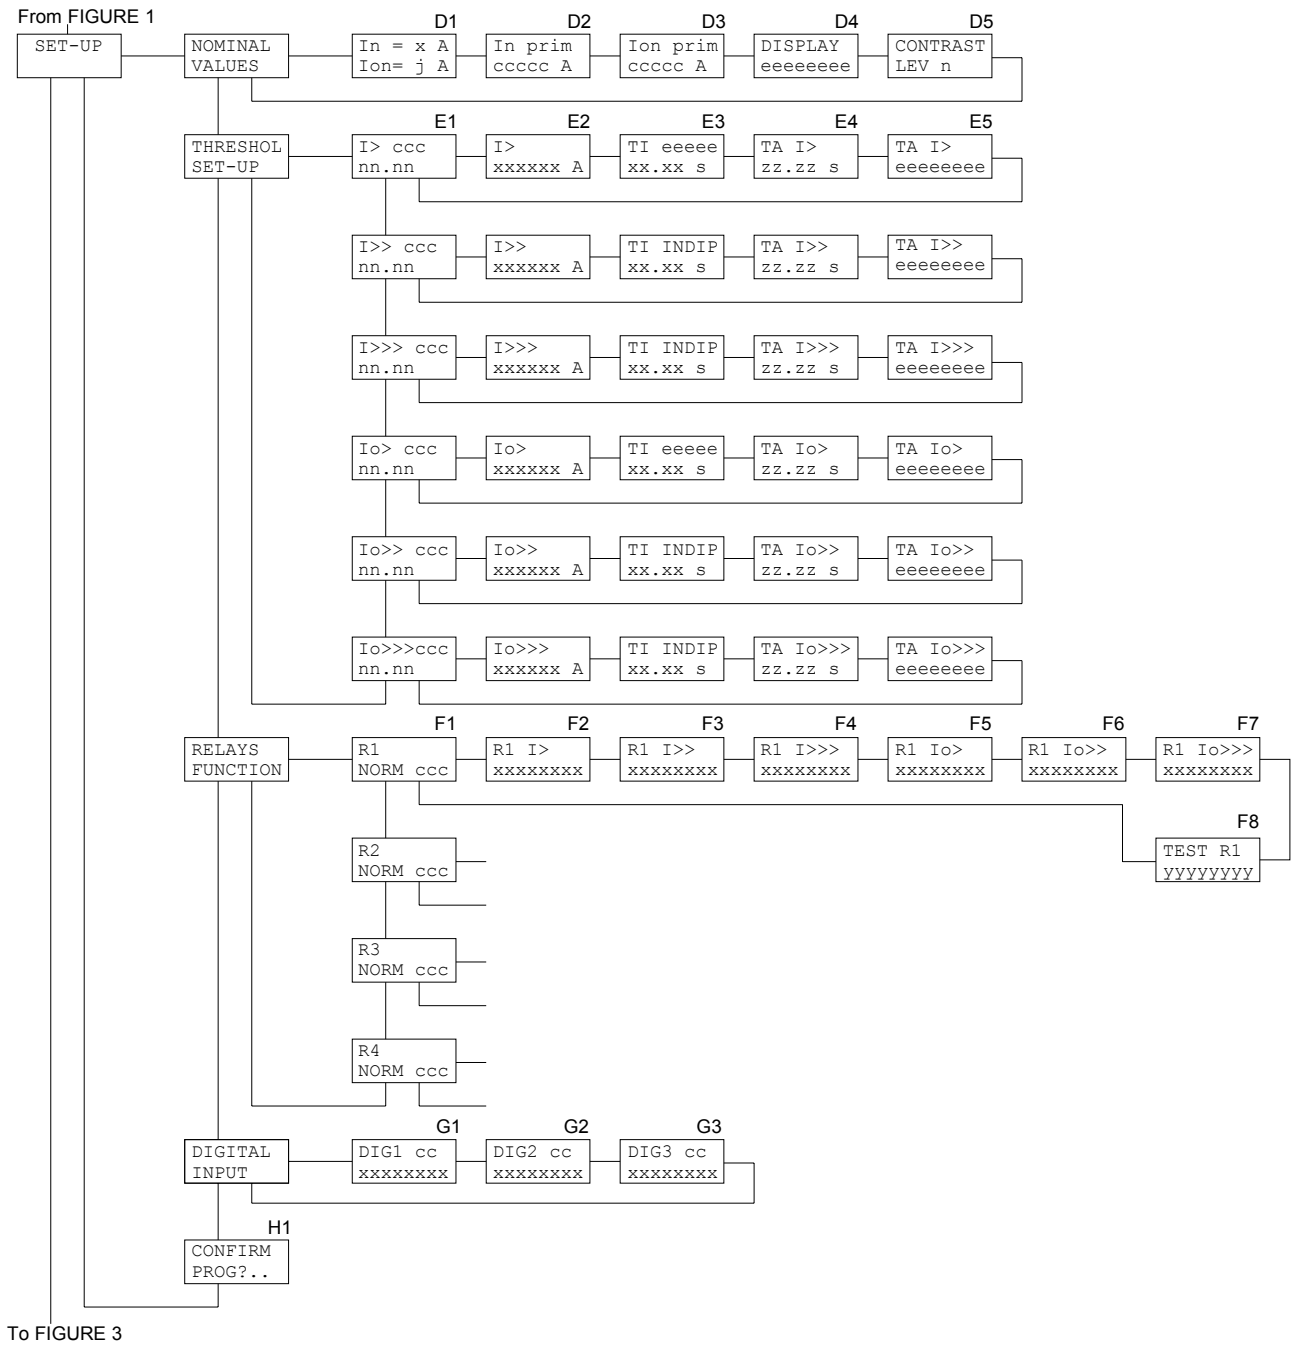

Figure 2
- 5) **CONFIRM** the new protection relay set-up at the visualization CONFIRM PROG? (Fig. 2, ref. H1) within 5 minutes depressing the push-buttons buttons [ENTER],  up to visualize **YES** and [ENTER] again to confirm.
When the output relays test is selected (Fig. 2, ref. F8) it is possible to command an output relay (one at the time) to trip from the current status allowing functional tests on electrical plants.
5.5 Nominal values set-up (fig. 2)
5.6 Thresholds and time delays set-up (fig. 2)